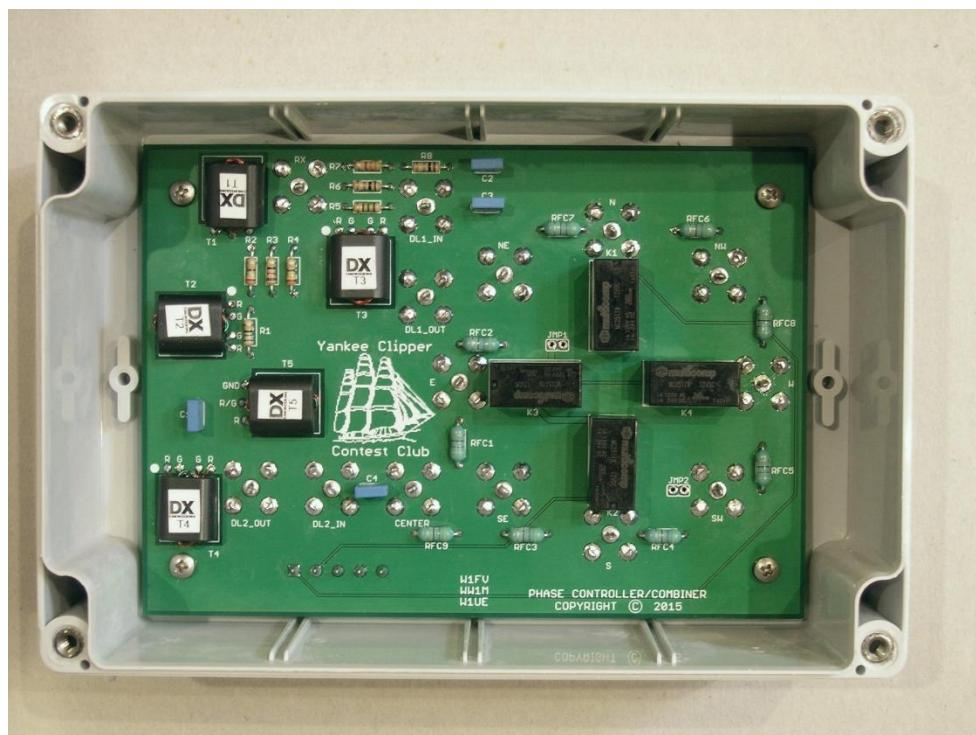
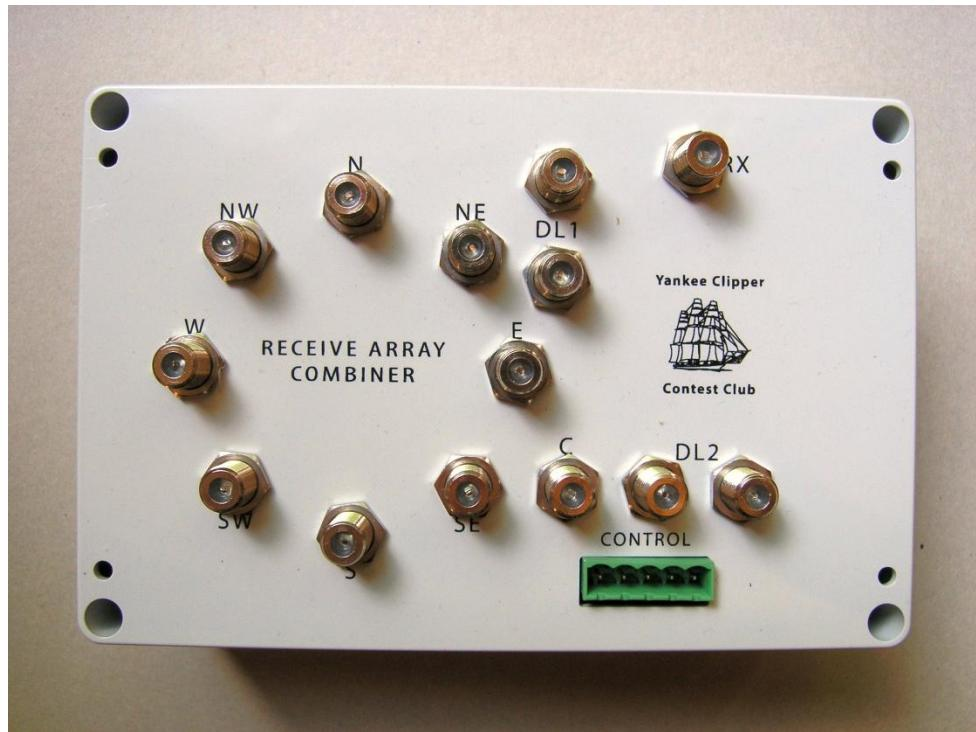

Figure 20. Inside view of PCB mounted in enclosure
Figure 21. Bottom view of combiner enclosure with PCB mounted inside
27. Mount the PCB by passing the F-connectors and the terminal block through the holes. There are four mounting holes at the corners of the PCB (refer to Figure 20). These holes line up with threaded holes inside the enclosure. Install Phillips screws at each of the corners to secure the PCB to the inside of the enclosure. Then install and tighten the nuts on all 14 F-connectors on the outside of the enclosure. The finished unit should look like Figure 21.
6. Control cable connections are made to the 5-pin terminal block. Use the plug that is supplied with the kit. Viewed from the bottom of the enclosure (see Figure 21) the order of terminal block connections on the outside, from left to right is +12V, GND, K3/4, K2, K1.